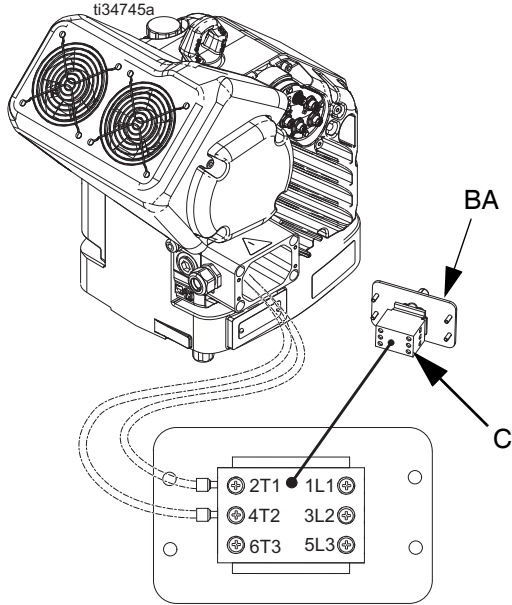

FIG. 7: Terminal Connections
NOTE: Inside the junction box, power wires are pre-installed to terminals 2T1 and 4T2 on the disconnect block. Refer to FIG. 7 for the terminal locations.
5. Refer to FIG. 7 and connect the wires from the power cord into terminals 1L1 and 2L2.